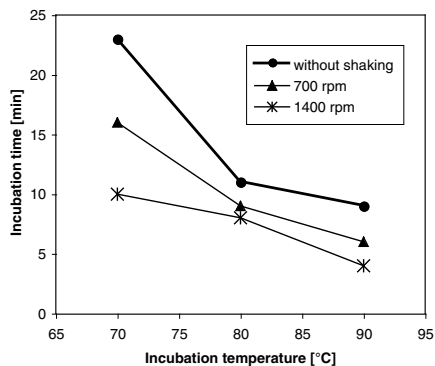

Figure 2 Removal of residual ethanol from the elution fraction by heat treatment.
- d) The incubation of the eluate at higher temperatures may be adjusted according to Figure 2. The incubation time- and temperature conditions shown will reduce an elution volume of 20 µL to about 12–14 µL and will effectively remove traces of ethanol as described above.